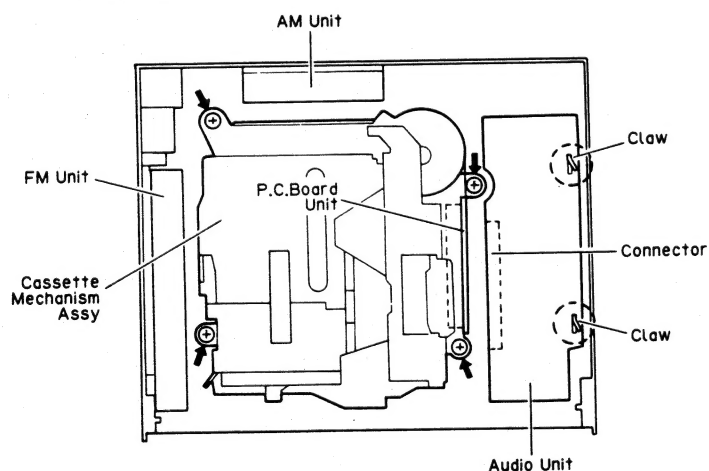

Fig. 2
• Cassette Mechanism Assy (Fig. 2)